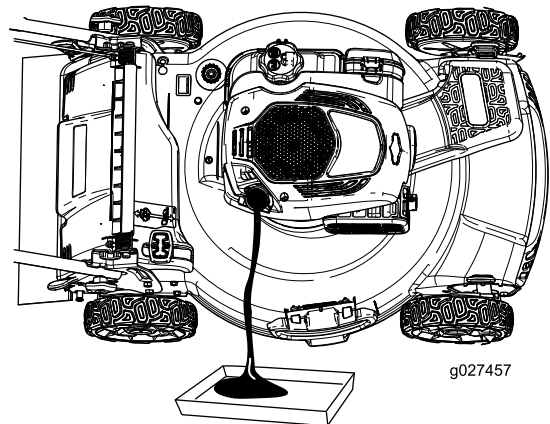

**Figure 25**
3. Remove the dipstick by rotating the cap counterclockwise and pulling it out (Figure 25).
10. Read the oil level on the dipstick (Figure 25).